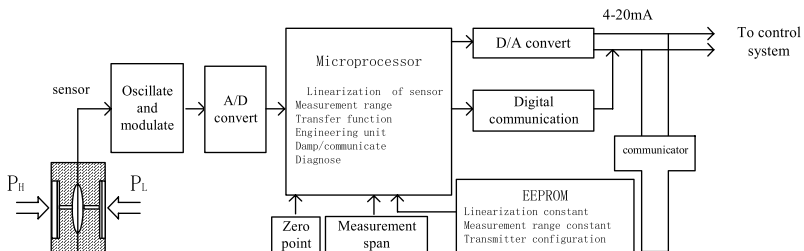

Fig1-1
1.3.1 Fig1-1 is the operation principle electric diagram of the intelligent transmitter.